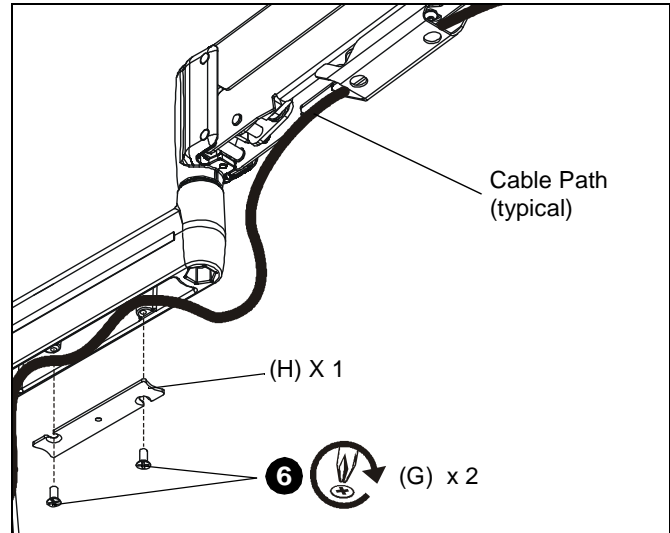

Figure 10
mount arm. (See Figure 10)
6. Using Phillips screwdriver, install cover (H) with two screws (G). (See Figure 10)